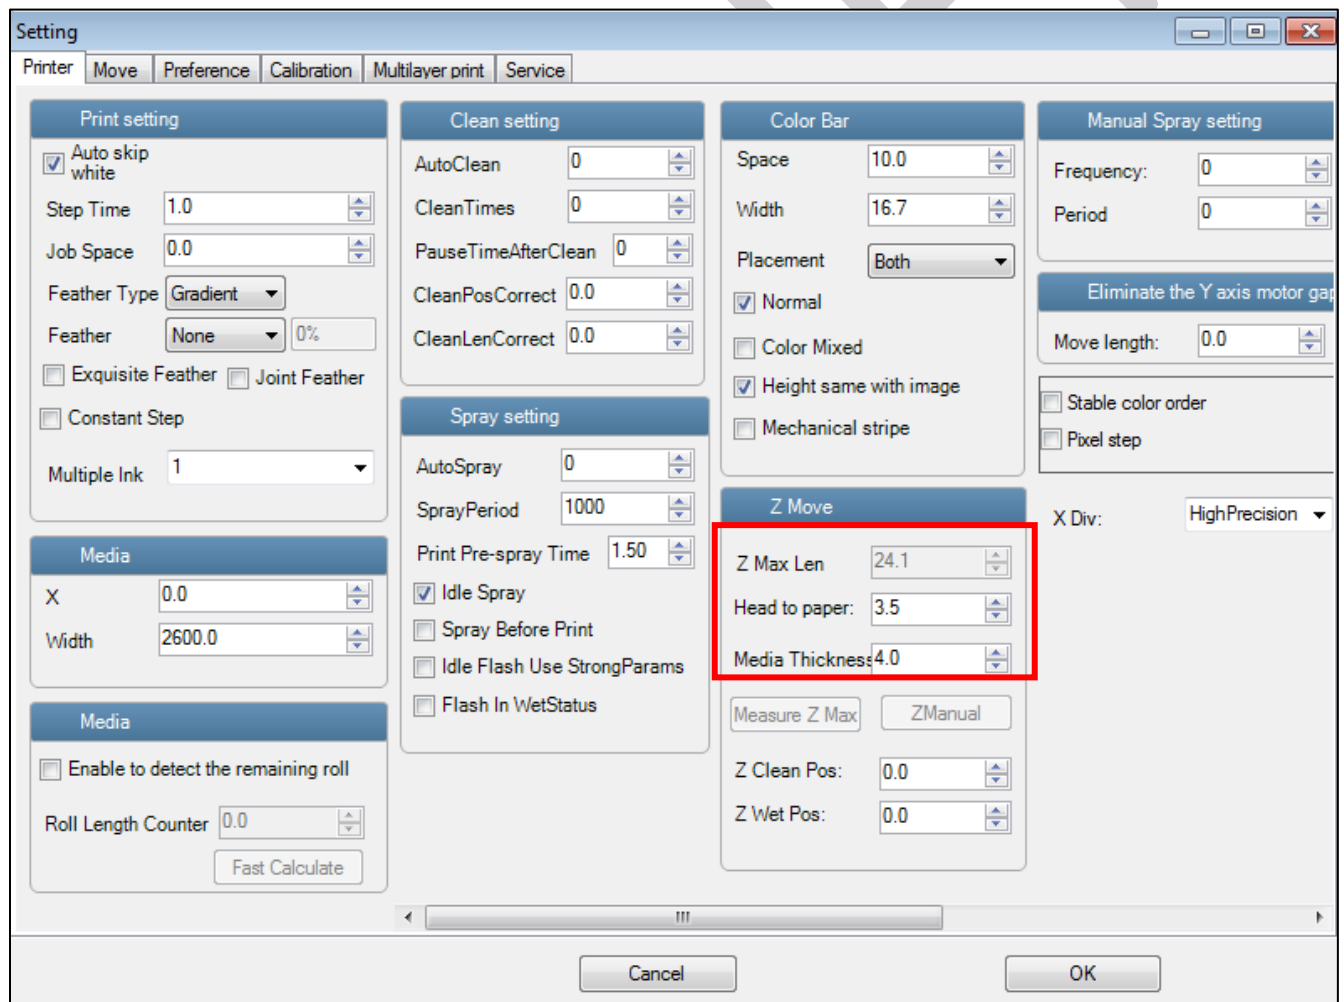

Fig 73: Setting Z Position
Step 1: Enter height from head to paper in the given field (Refer to Fig. 73).
Step 2: Enter fabric thickness as per fabric type (Refer to Fig. 73).
Step 3: After providing all values, click on the **Z Manual** button to set the Z axis (Refer to Fig. 73).